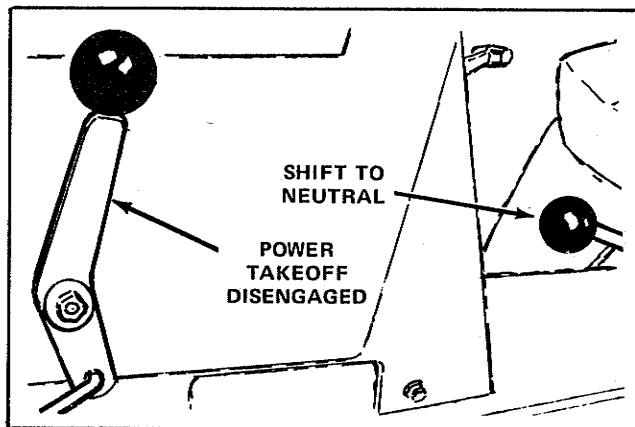

Figure 6
1. Insure that the power take-off is disengaged by moving the lever to the rear and down. The engine will not start unless the power take-off is disengaged. (Figure 6)
2. Place the transmission shift lever in the neutral position. *The engine will not start unless the shift lever is in neutral.* (See Figure 6)